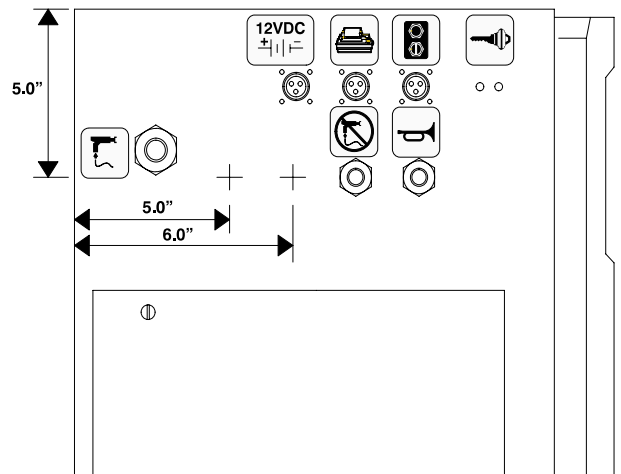

Fig. 1
1. Using the dimensions shown in Fig.1, drill two 7/16" diameter holes in the side of the panel.